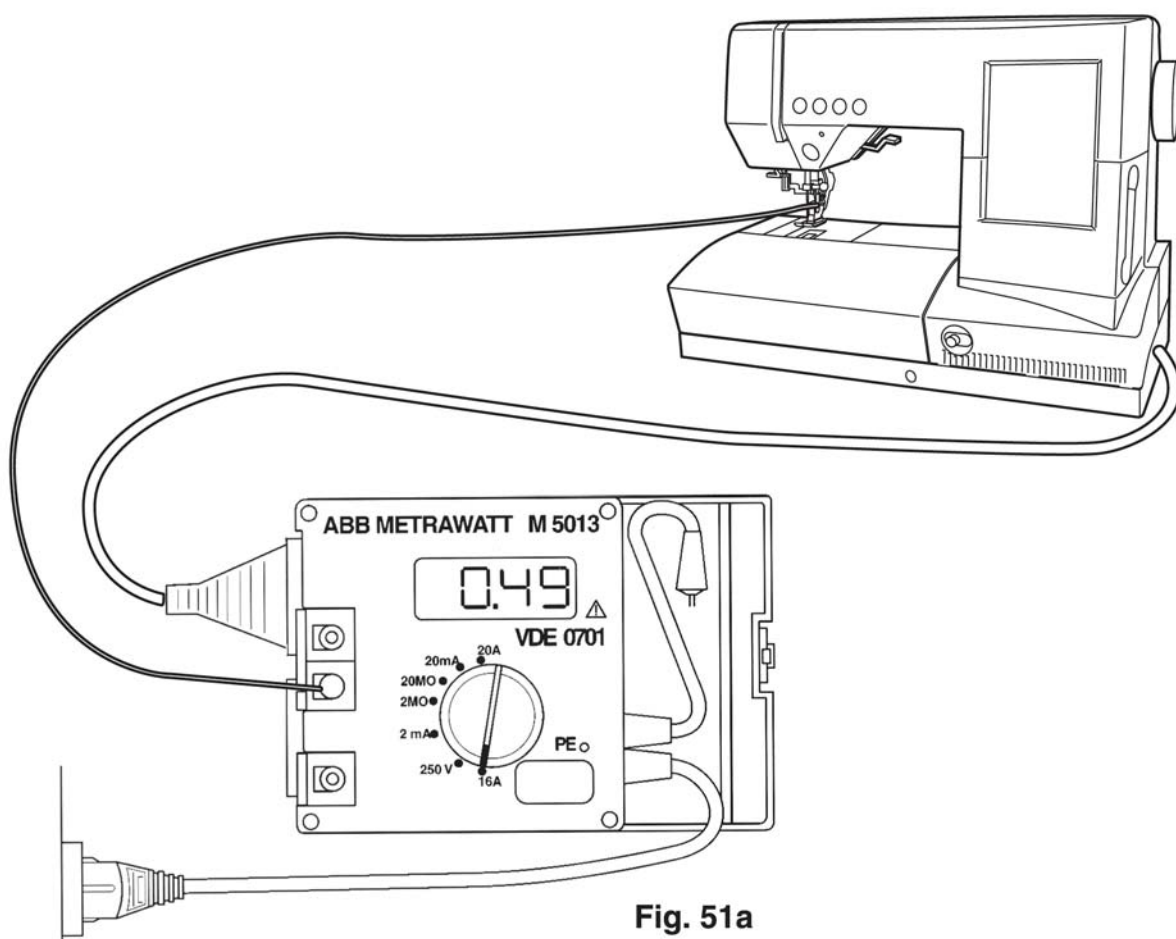

Fig. 51a
- Set testing range switch at **16 A** (fig. 51a).